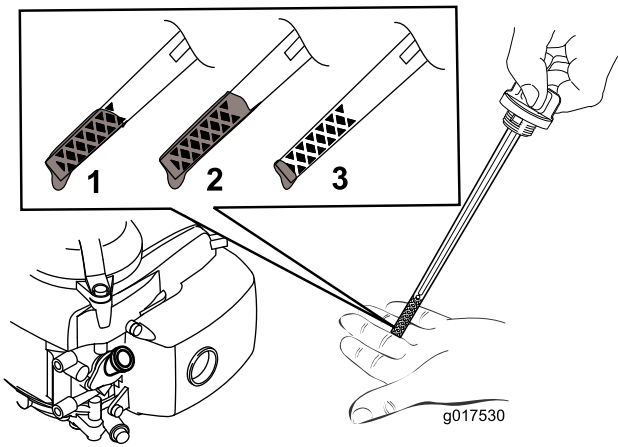

Figure 5
2. Remove the dipstick (Figure 5).
- Note:** Fill the engine crankcase with oil until the dipstick indicates that the engine oil level is correct as shown in Figure 5. If you overfill the engine with oil, remove the excess oil as directed in Changing the Engine Oil.